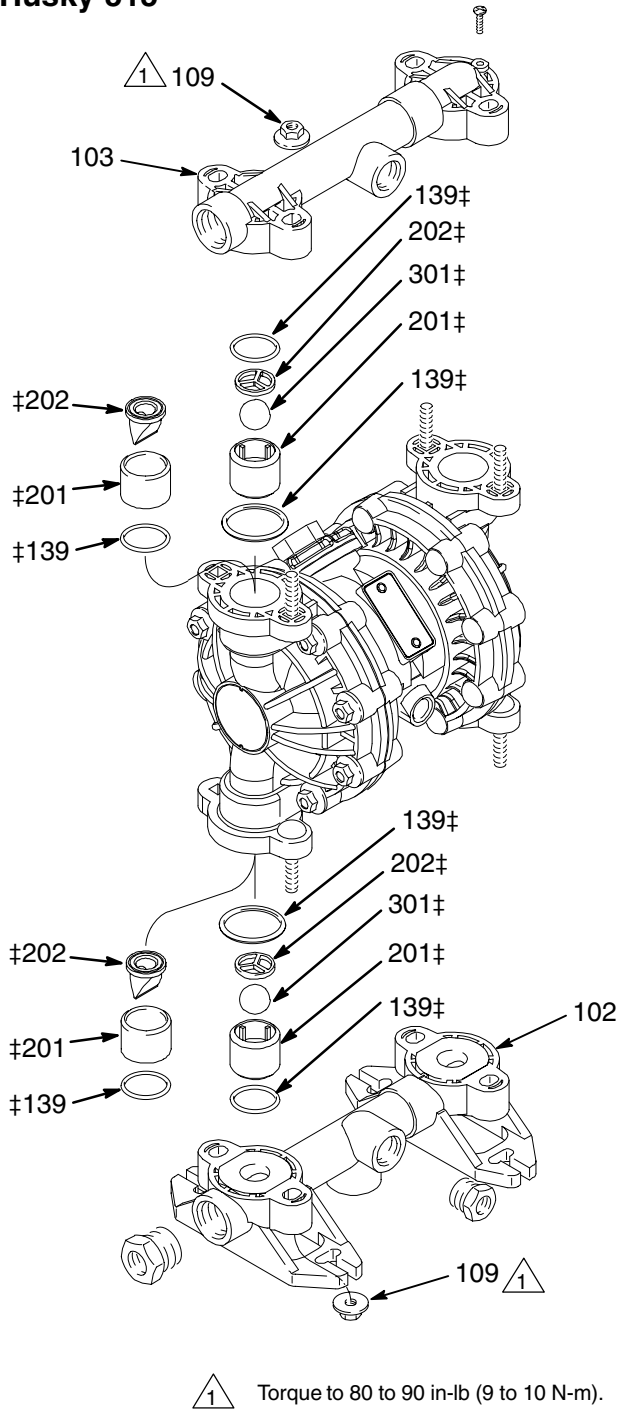
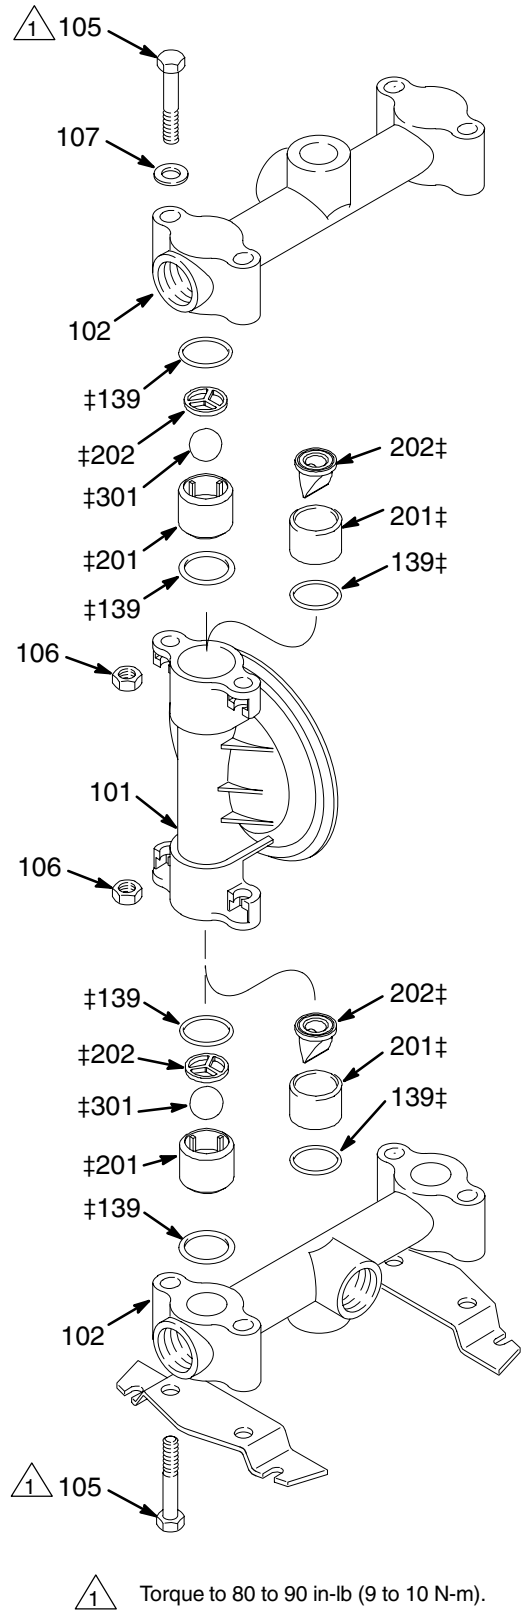

Fig. 7
Fig. 8
NOTE: Fluid Section Repair Kit D05XXX is available. See page 20 to order the correct kit for your pump. Parts included in the kit are marked with a double dagger (‡) in Fig. 7 and Fig. 8 and in the Parts Drawings and Lists. General purpose grease 111920 and Adhesive 113500 are supplied in the kit.
3. Remove all parts shown with a dagger (‡) in Fig. 7 and Fig. 8.
NOTE: Make sure all the check valve parts stay in place. See Fig. 7 on page 15.
6. Put grease on the diaphragm shaft (15), and carefully (do not damage the shaft u-cups) run the diaphragm shaft (15) through the center housing (11) bore.
7. Repeat step 5 for the other end of the diaphragm shaft (15), and torque the fluid-side diaphragm plates (105) to 80 to 90 in-lb (9 to 10 N-m) at 100 rpm maximum.
8. Install the muffler (3).
9. Make sure all the check valve parts are in place. See Fig. 7 on page 15.
10. Reinstall the fluid covers (101) and manifolds (102 and 103), and torque the fluid cover and manifold nuts (109) to 80 to 90 in-lb (9 to 10 N-m).
NOTE: Make sure all the check valve parts stay in place. See Fig. 8 on page 15.
9. Apply thin, even film of grease to inside of vee clamp (109).
10. Position the fluid covers (101), install the vee clamps (109) around the fluid and air covers, install the grounding strip on the vee clamps, and torque the vee clamp nuts to 80 to 90 in-lb (9 to 10 N-m).
11. Make sure all the check valve parts are in place. See Fig. 8 on page 15.
12. Install the manifolds (102), and torque the manifold bolts (105) to 80 to 90 in-lb (9 to 10 N-m).